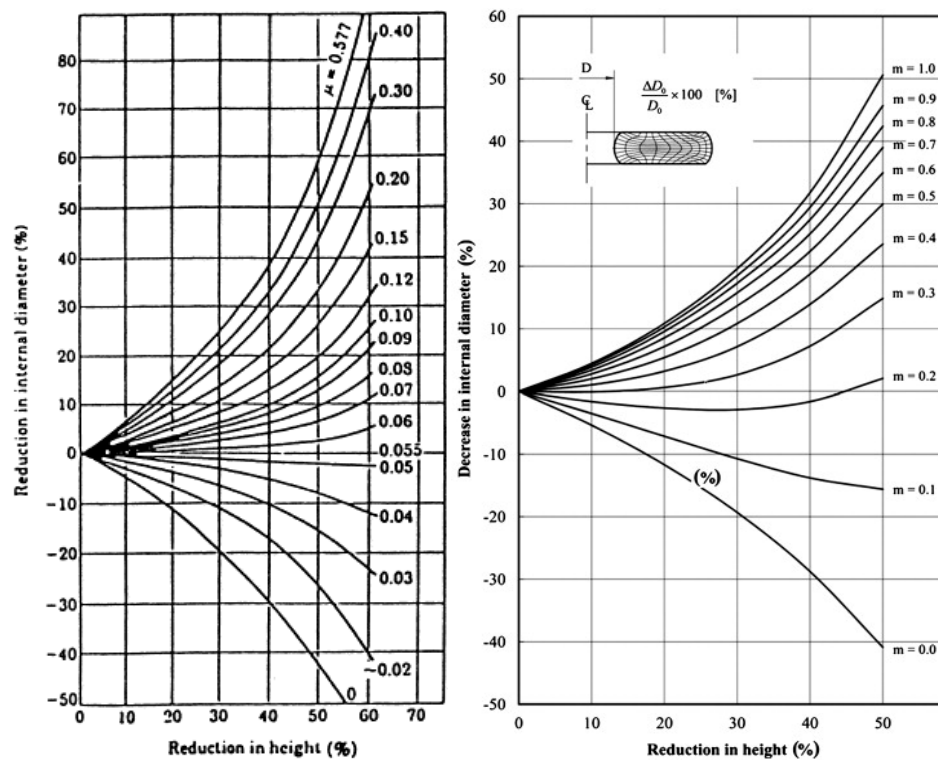

Figure Q6[b]
- [b] A specimen with 10 mm high has outside and inside diameters (OD and ID) of 30 mm and 15 mm, respectively. In the ring compression test, the height is reduced in thickness by 50%. Determine the coefficient of friction, μ and the friction factor, m , if the ID after deformation is 10 mm by referring to Figure Q6[b].